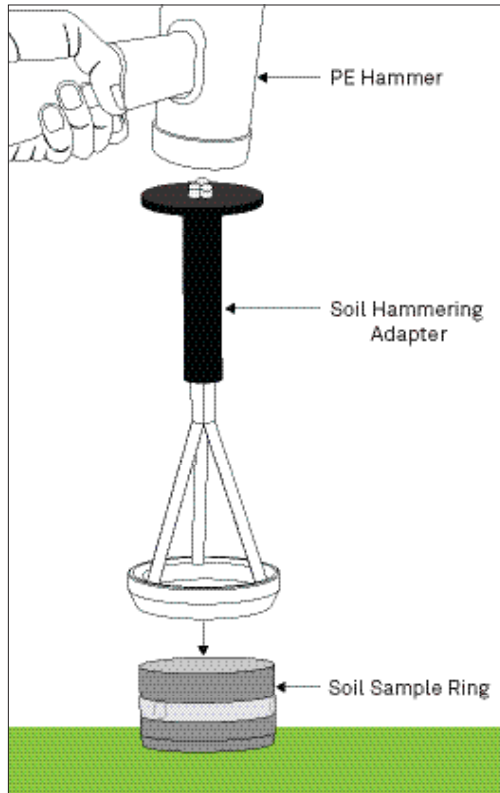

**Figure 7 METER soil hammering adapter placement**
5. Place the METER hammering adapter (available for 250 mL) on the sample ring (Figure 7).